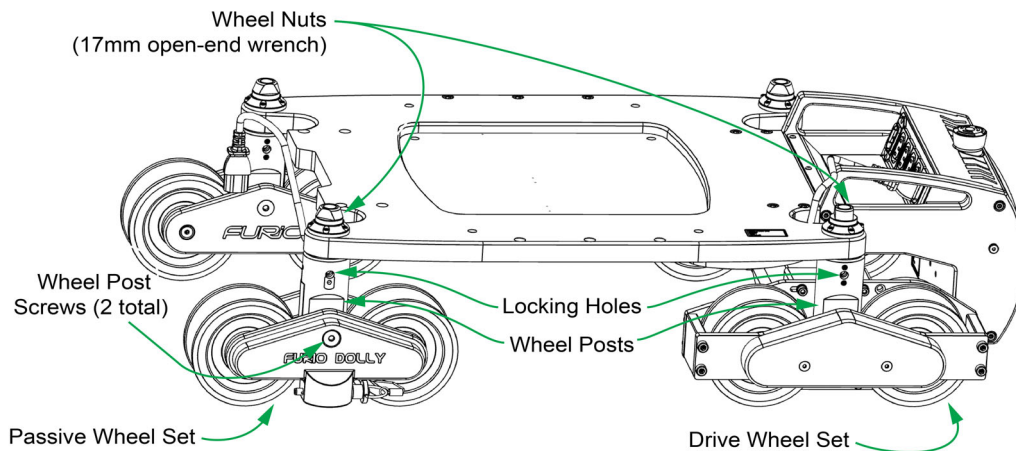

Figure 7 - Removing a Passive Wheel Set
1. Use a 17 mm open-end wrench to remove the nut above the passive wheel set (see **Figure 7**) on the same side as the drive wheel set.